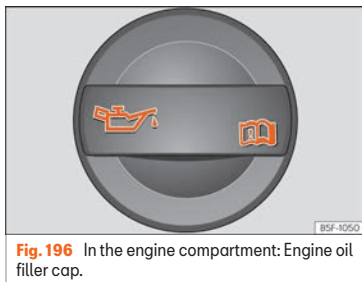

Fig. 196 In the engine compartment: Engine oil filler cap.
- Unscrew cap from engine oil filler opening »» **Fig. 196**.